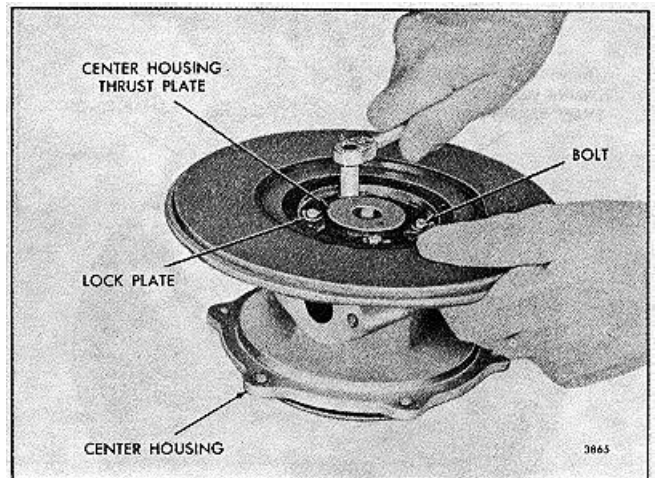

FIG. 17 - Removing Center Housing Thrust Plate Bolts
6. Place the center housing, compressor housing end up, on the bench (Fig. 17).